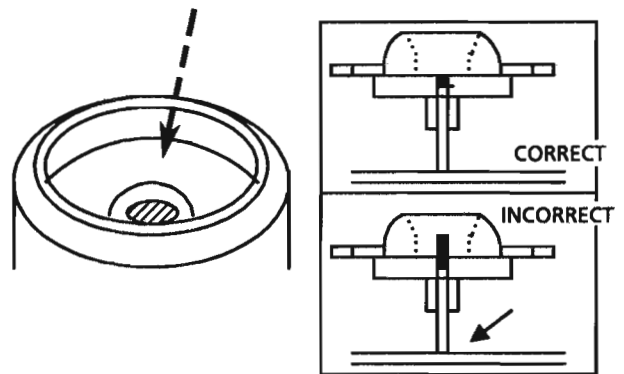

Fig. 46
- (31) After inserting the turntable, bond the motor shaft and turntable together (at the section marked by an arrow in fig 46 on the left below).
Be extremely careful not to allow bonding agent to adhere to the motor bearing (the section marked by an allow in fig 46 on the right).